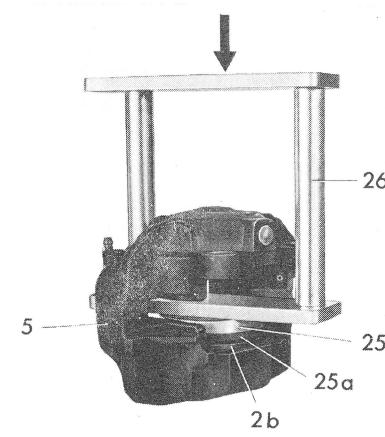

Fig. 14
13 Place pressure plate (25) on dust cap (2b) and press dust cap on flange of caliper at a pressure of approx. 300 Nm (30 kpm) using installation tool (26) as well as a hand press (Fig. 14).